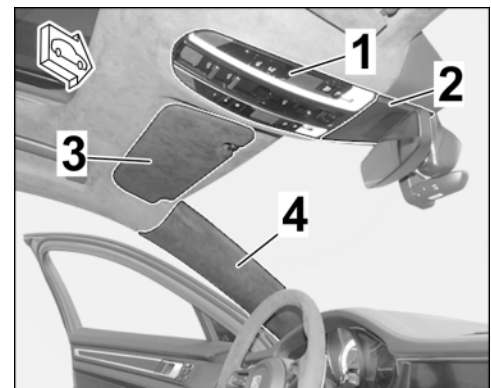

Figure 3
1.3 Expose front roof/rear-view mirror area (interior \Rightarrow *Figure 3*)